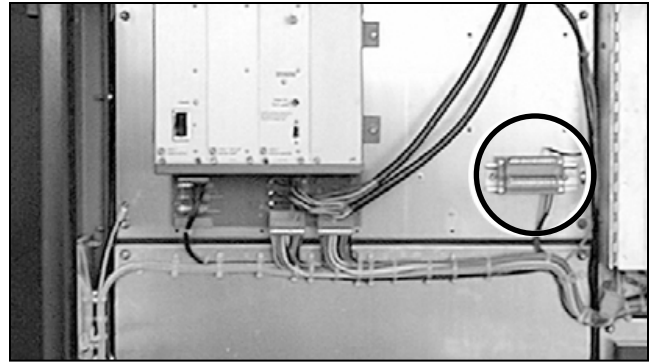

Figure 124. Attaching the ground wires to the terminal block.
- (f) There will be up to three pairs of ground wires, VS-G1 and VS-G2, that are included in the main enclosure. See your wiring diagram for details. Attach the ground wires to the terminal block specified in the drawings provided, and fully tighten the set screws. See Figure 124.